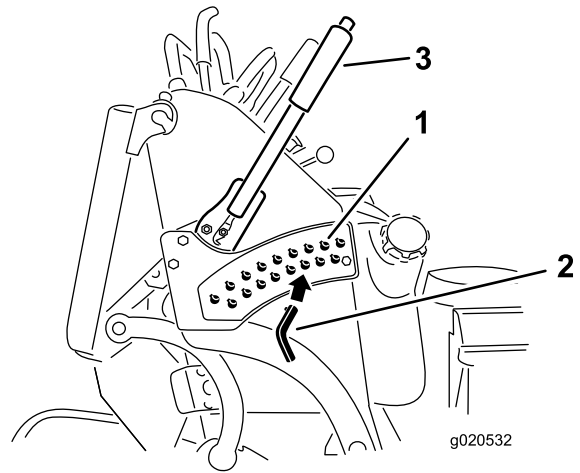

Figure 27
3. Select a hole in the height-of-cut bracket corresponding to the height-of-cut desired and insert the pin (Figure 27).
4. Push the button on top and lower the height-of-cut lever to the pin (Figure 27).